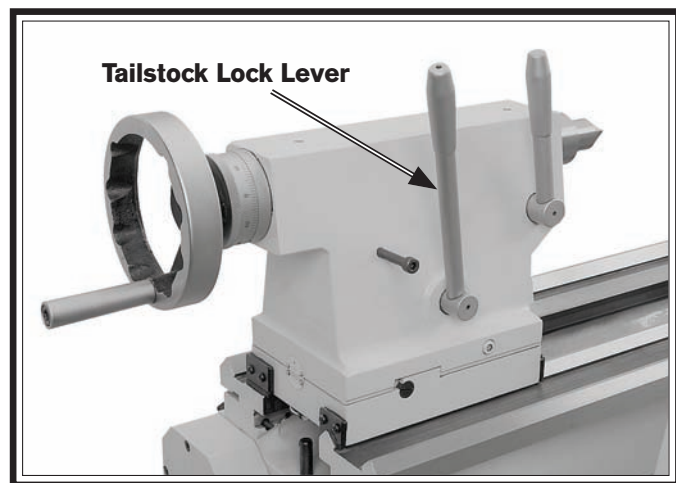

Figure 5. Tailstock lock lever.
3. To balance the lifting load, loosen the tailstock lock lever (**Figure 5**), move the tailstock to the end of the bedway, then lock it in place.